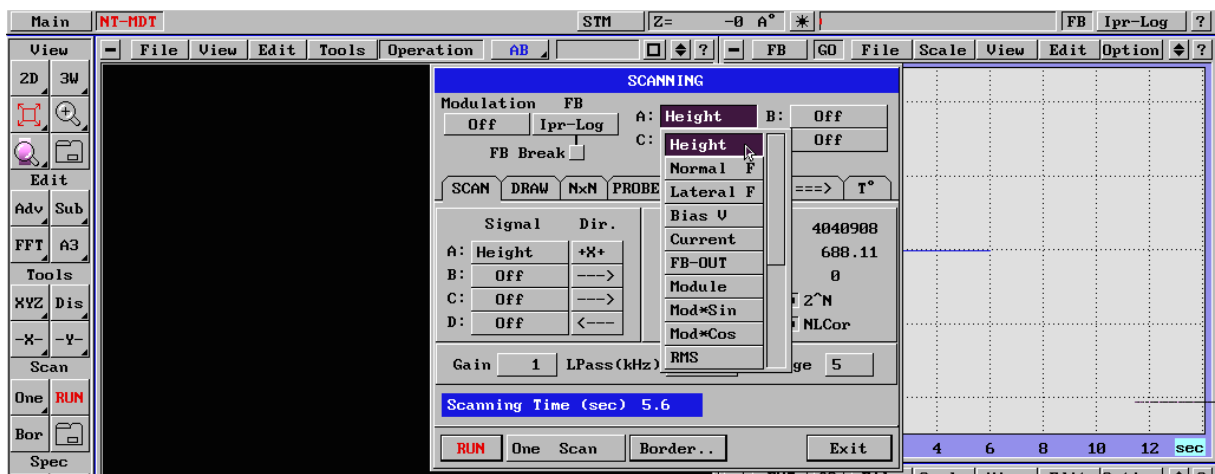

Fig. 64
- Scan A - Height (Fig. 64)
- Scan B, C, D - off (Fig. 64)